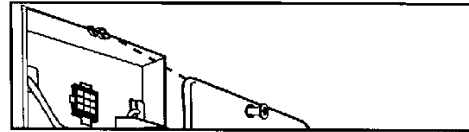
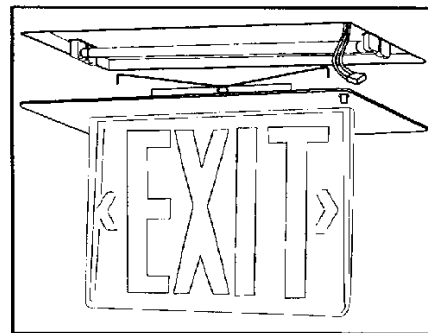

Fig. 5
Fig. 1
Step 6. (cont'd) Self-powered units only-Plug four position connector into test switch. P.C. Board assembly mounted to face plate casting. (See Fig. 1)
- Step 4.** Self-powered units only - plug four position connector into test switch P.C. Board assembly mounted to face plate casting. (See Fig. 1 and Fig. 5)